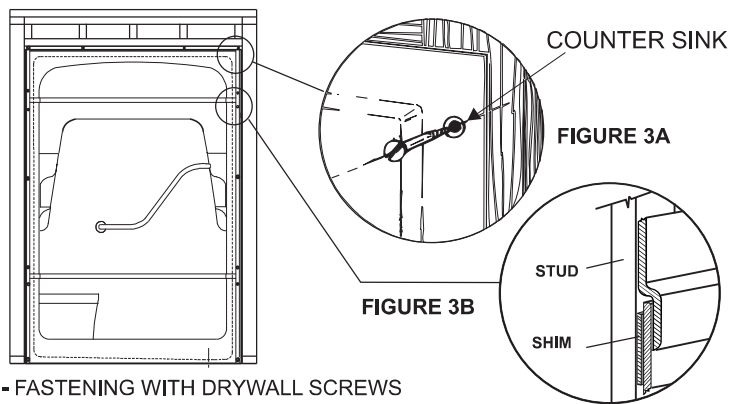

FIGURE 3 - FASTENING WITH DRYWALL SCREWS
- The shower is fastened in place using dry wall screws. Holes are to be drilled in the flange on both sides and across the top. The holes are to be drilled by the installer, installation is illustrated in figures 3 and 3A.
10. Fasten the unit into the framed alcove by the recessed 2" x 2" around the periphery of the opening as illustrated in Figure 3, (2 vertical studs and 1 across the top).